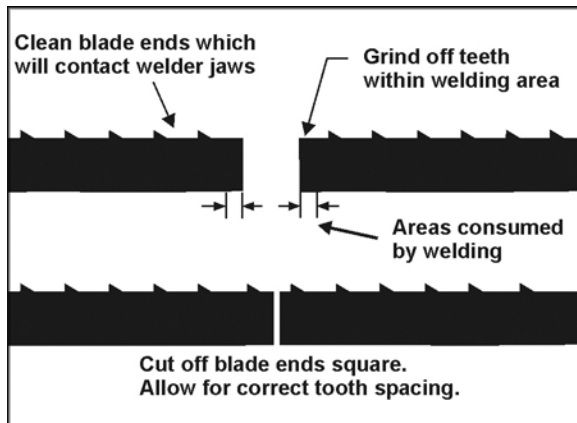

Figure 11
3. Position blade so that cut is made at a place that allows for uniform spacing of teeth. See Figure 11.
In fine pitched blades, one or more of the teeth on each side of the cut may need to be removed by grinding so that the weld area of the blade is uniform and the teeth will be uniformly spaced. See Figure 11, and refer to section 12.5 *Blade grinding*.